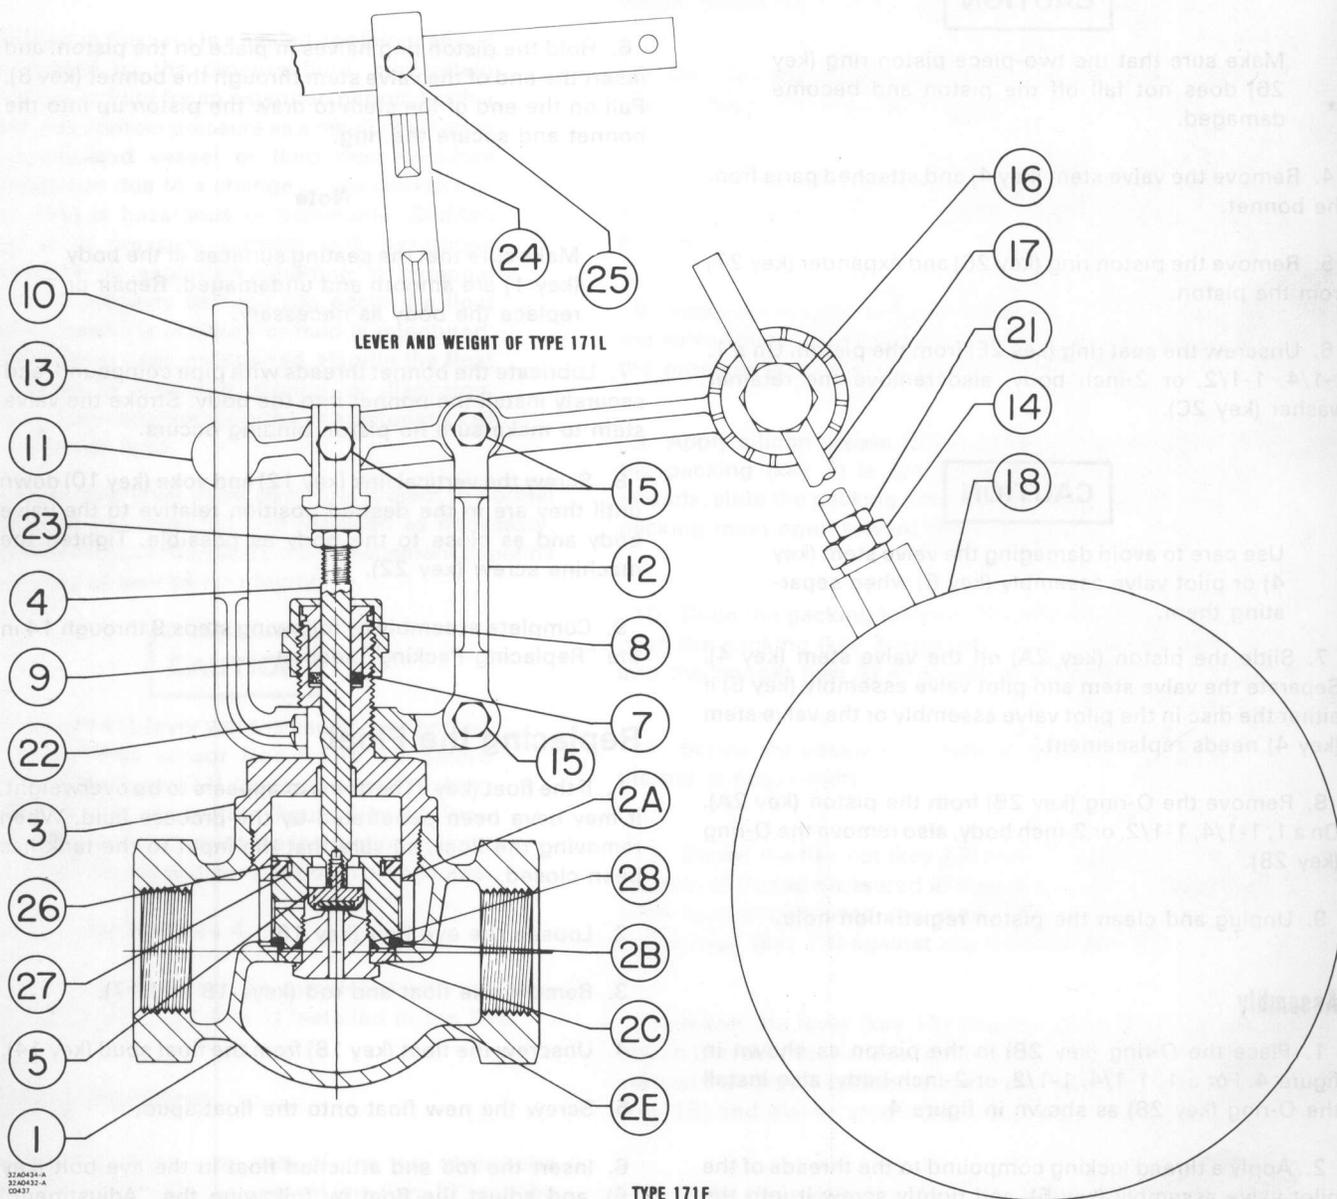

Figure 4. Type 171F and 171L Constructions
Key numbers refer to figure 4.
1. Unscrew the elastic stop nuts on the two lever bolts (key 15) at the top of both the vertical link (key 12) and the lever connection (key 13).
2. Disconnect the lever (key 11) from the vertical link (key 12) and lever connection (key 13).
3. If the float (key 18) bottoms or appears to be overweight, it may have been penetrated by the process fluid. If it is necessary to remove the float for any reason, be sure that the inlet to the tank has been closed. If necessary, loosen the eye bolt (key 16), and remove the float and rod (keys 18 and 17) of the Type 171F level regulator.
4. Unscrew just the lever connection (key 13) from the valve stem (key 4).
5. Measure and record for later use the amount of thread visible below the hex nut (key 23). Remove the hex nut.
6. Unscrew the packing nut (key 9), and lift it straight up until it clears the valve stem (key 4).
7. Remove the packing follower (key 8), and then remove the packing (key 7) with a sharp, thin object or with a packing hook.
8. Inspect the valve stem for nicks and scratches, and, if the valve stem (key 4) shows wear, replace it by following the procedures in the "Replacing Trim" section.
9. Apply silicon grease to the packing. Taking care that the packing (key 7) is not damaged on the valve stem threads, slide the packing onto the stem. The v-notch in the packing must open toward the valve body.
10. Slide the packing follower (key 8) onto the stem, and push the packing (key 7) and the packing follower (key 8) into the bonnet (key 3) as shown in figure 4.
11. Screw the packing nut (key 9) onto the bonnet until the nut is finger-tight.
12. Screw the hex nut (key 23) onto the stem so that the amount of thread measured in step 4 is visible. Thread the lever connection onto the stem, and tighten the lever connection (key 13) against the hex nut (key 23).
13. Insert the lever (key 11) into the yoke (key 10), and attach the lever to the lever connection (key 13) and to the vertical link (key 12). Secure the parts with the lever bolts (key 15) and elastic stop nuts (not shown in figure 4).
1. Place the O-ring (key 2B) in the piston as shown in figure 4. For a 1, 1-1/4, 1-1/2, or 2-inch body, also install the O-ring (key 28) as shown in figure 4.
2. Apply a thread locking compound to the threads of the pilot valve assembly (key 5), and tightly screw it into the valve stem (key 4).
3. Place the expander (key 27) on the piston, then slide the assembled valve stem and pilot valve assembly into the piston until the pilot valve assembly is pushed completely into the piston.
4. On a 1, 1-1/4, 1-1/2, or 2-inch body, slip the retainer washer (key 2C) over the lip of the seat ring. Screw the seat ring into the piston.
5. Install the piston ring (key 26) halves around the piston groove so that the split ends match. To break a new one-piece ring into halves for installation, place the ring on a flat surface. Using a sharp edge, score two notches in the piston ring opposite each other. Keep the sharp edge on the notches, and tap it to break the ring at both notches at the same time.
6. Hold the piston ring halves in place on the piston, and insert the end of the valve stem through the bonnet (key 3). Pull on the end of the stem to draw the piston up into the bonnet and secure the ring.